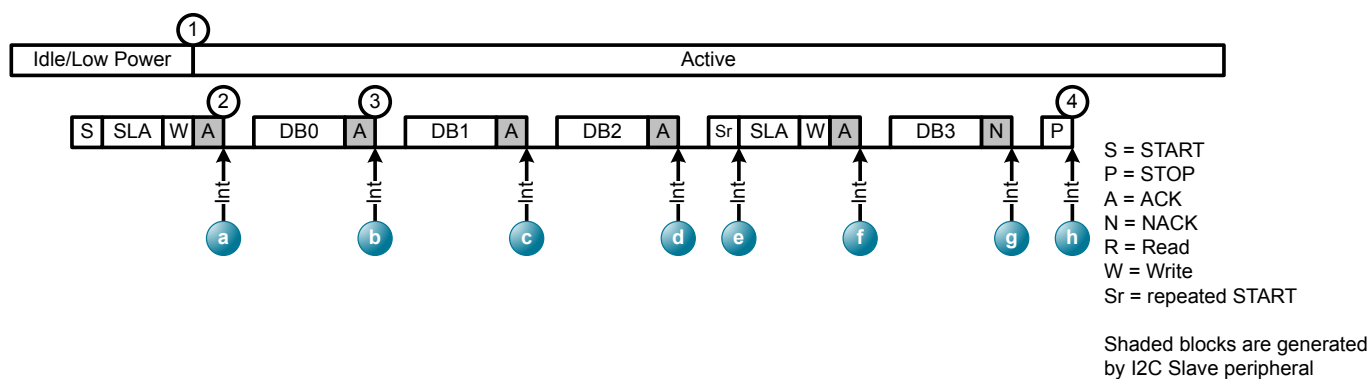
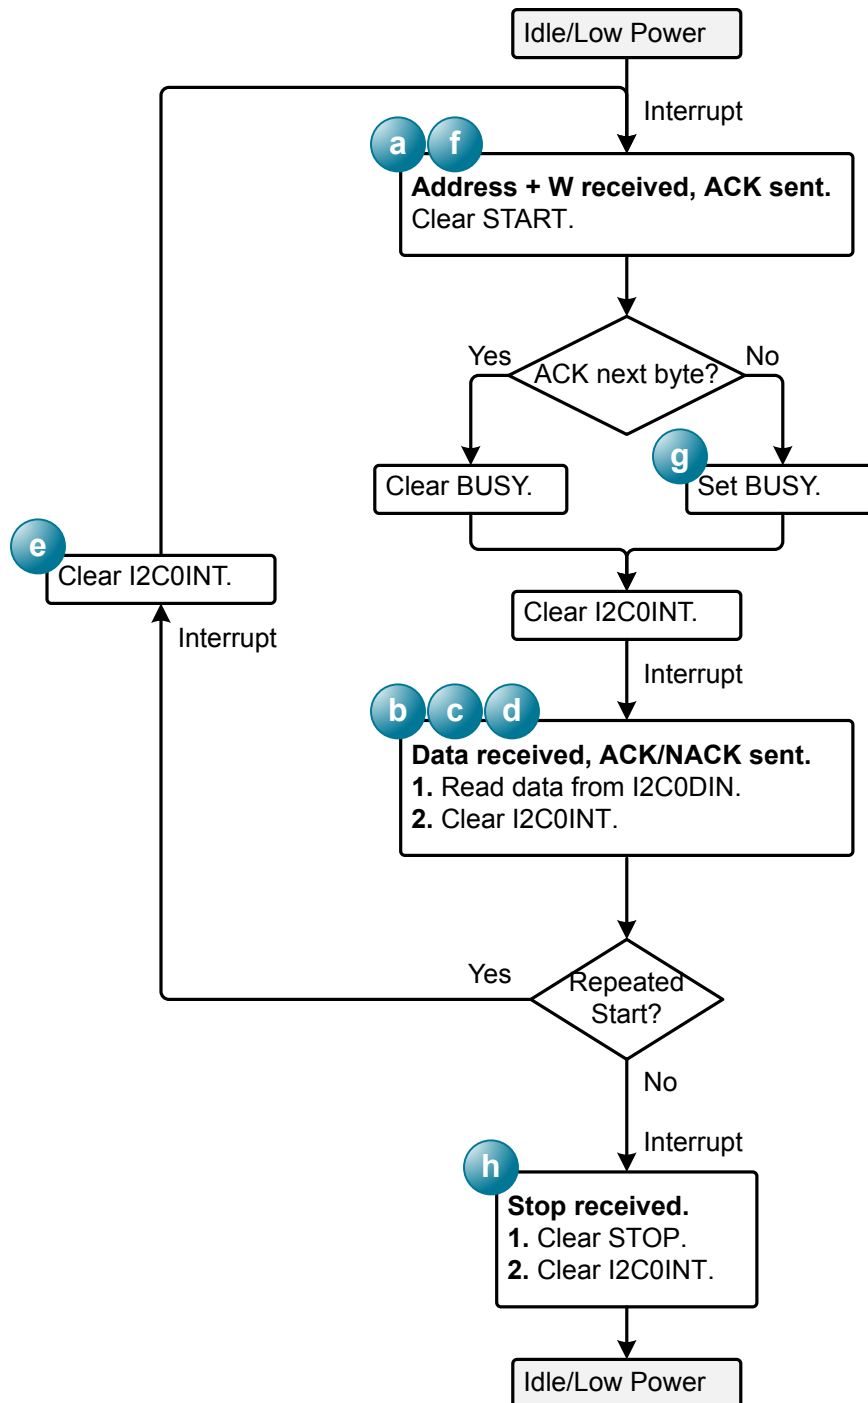

Figure 15.5. Example I2C Write Sequence with the I2C Slave Peripheral
Figure 15.6. I2C Write Flow Diagram with the I2C Slave Peripheral
2. An interrupt occurs after the automatic ACK of the address. The I2C peripheral holds the SCL line low for clock stretching until firmware clears I2C0INT. Firmware should take the actions indicated by Figure 15.6 I2C Write Flow Diagram with the I2C Slave Peripheral on page 181.
Figure 15.5 Example I2C Write Sequence with the I2C Slave Peripheral on page 180 demonstrates an example sequence, including a repeated start, and Figure 15.6 I2C Write Flow Diagram with the I2C Slave Peripheral on page 181 describes the I2C Write sequence and firmware actions in each interrupt.
Note: Firmware can leave the BUSY bit as 0 in step F in the Figure 15.5 Example I2C Write Sequence with the I2C Slave Peripheral on page 180 sequence. In this case, the master will receive an ACK instead at step G could still generate a STOP bit immediately after the ACK.